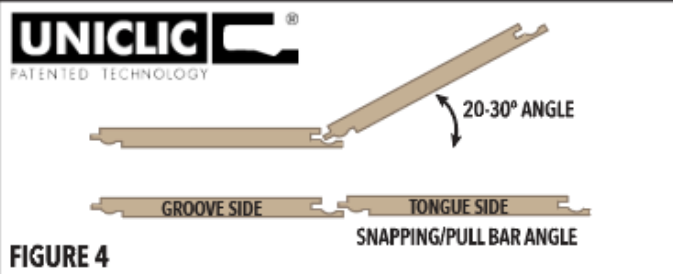

FIGURE 4
4. The end joints of the planks in the first row are assembled by inserting the tongue side into the groove side of the previous plank at a low 20-30° degree angle. Gradually lower the plank down flat, applying pressure inward and downward clicking and locking the end of the new plank into the end of the existing plank until the end joint closes. Ensuring that the planks are perfectly aligned. Install remaining full planks in the first row (Refer to Figure 4).